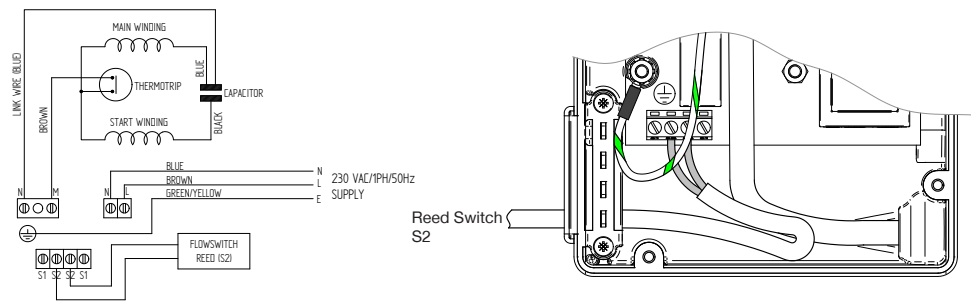

Fig. 21
- Note the cable routing within the terminal box (Figs. 21 or 22).
- Identify, disconnect and remove the reed switch wiring from the terminal block (Figs. 21 or 22).
- Remove the reed switch cable from the terminal box by gently sliding the cable out through the grommet, ensuring no damage to the grommet sealing area (Figs. 21 or 22).